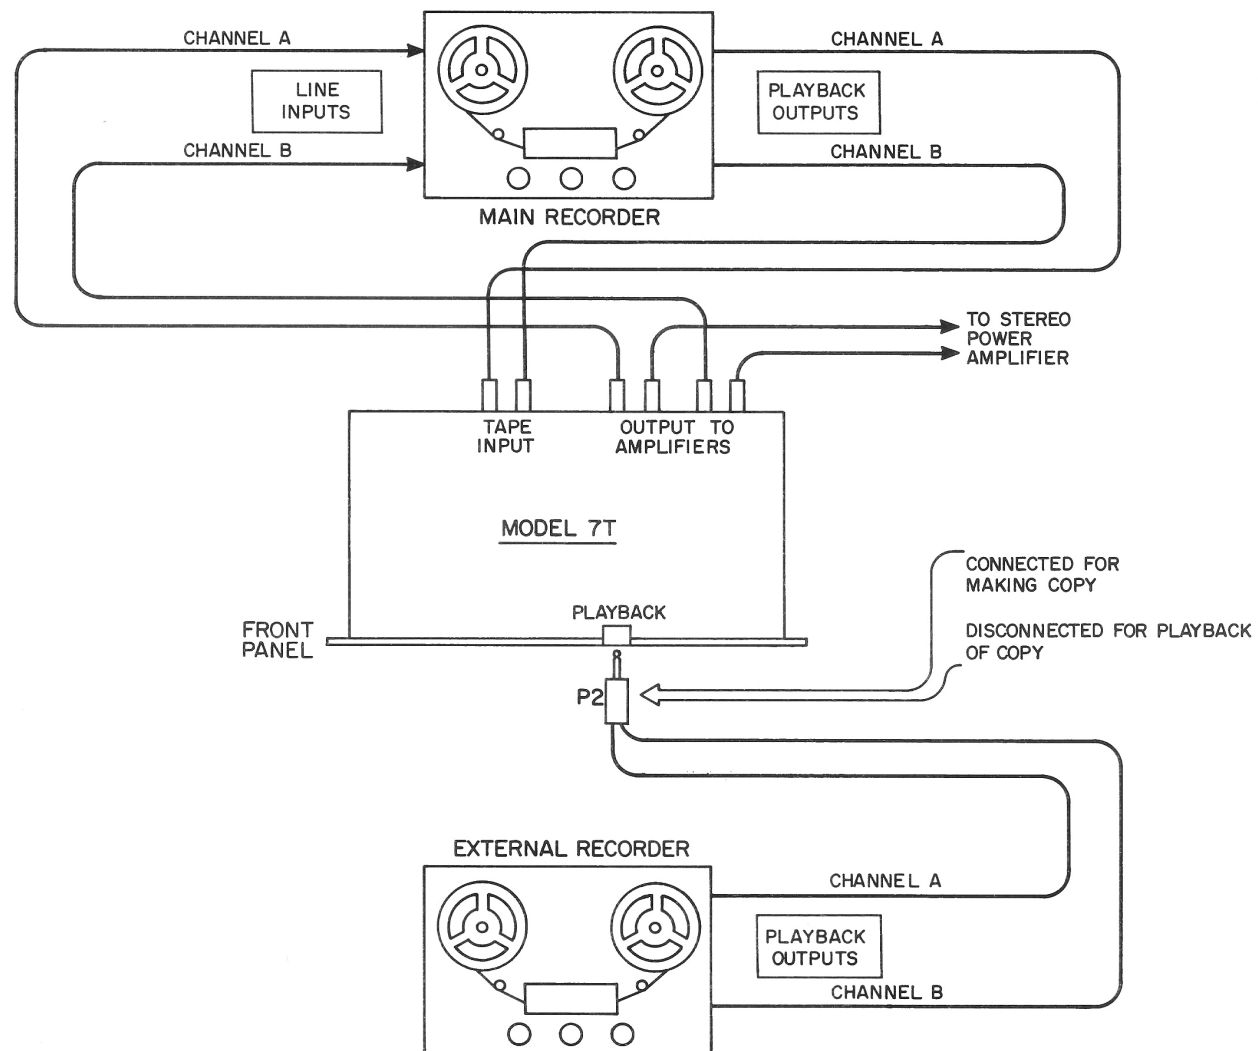

Figure 5. Equipment Arrangement for Making Improved Tape Copies
**Improving a Tape Copy** To improve the sound of a tape recording, you can copy it (dub) while using the controls of the 7T (**balance**, **treble**, **bass**, **HIGH-FREQ FILTER**, and **LOW-FREQ FILTER** controls. The equipment arrangement for making this type of copy is shown in Figure 5. Notice that in this arrangement, the recording input signals for the main recorder are taken from the duplicate pair of **OUTPUT TO AMPLIFIERS** jacks on the 7T instead of the **TAPE RECORDING OUTPUT** jacks.